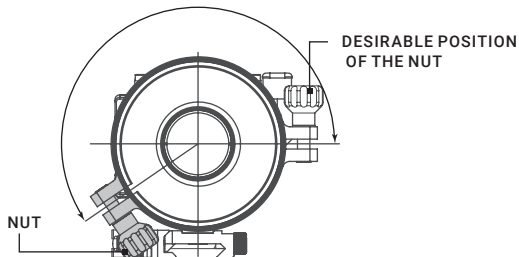

FIGURE 2-6. ESTIMATION OF THE FRONT SCOPE MOUNT TURNING ANGLE
1. Decide on desirable position of the nut and estimate the angle through which the Front Scope Mount should be turned CW (see Figure 2-6).